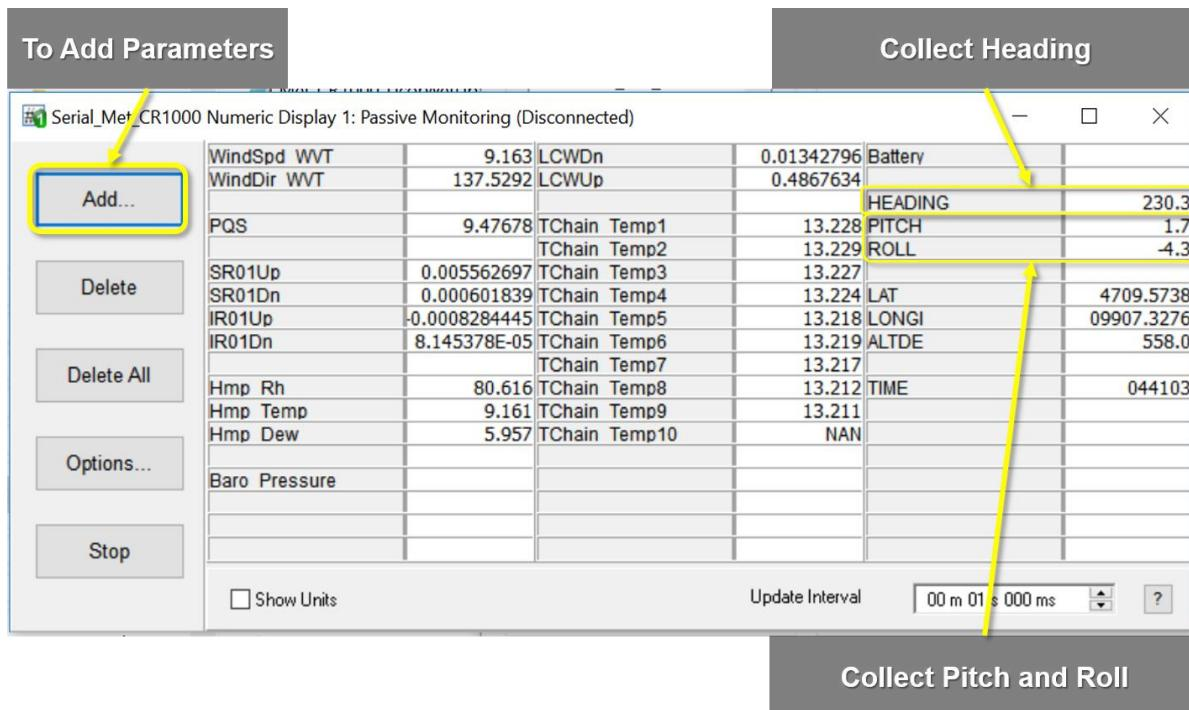

Figure 88. Collect Heading, Pitch and Roll for Offsets
- h. Record the values for **HEADING**, **PITCH** and **ROLL** to go along with the physical measurements made with the compass and level. See *Figure 88* below.